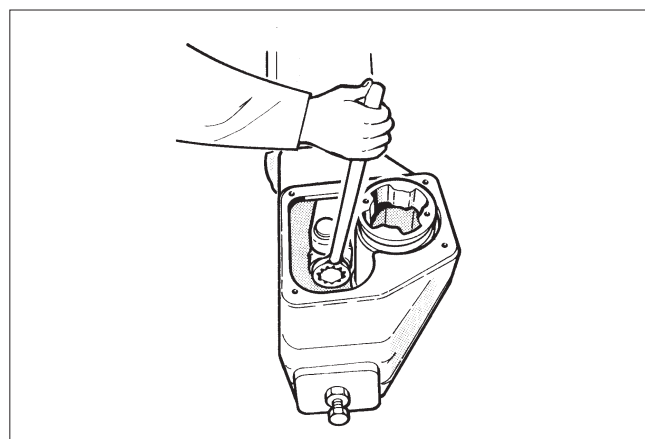

Fig. 10 Opening the fastening screw of the actuator bearing unit
- Remove the cylinder end side stop screw (26).
- Remove cylinder end (44).
- Remove housing cover (2).
- Unscrew the bearing screw (29) and the cylinder fastening screws (31) from the cylinder base (6) side, see Fig. 10. If the piston turns, do not prevent the turning with the piston fastening nut; send the entire actuator to the manufacturer to be repaired. **It is very dangerous if the lock welding of the piston fastening nut is broken!**
- Remove piston rod seal (16) and bearing (22). Clean the seal space.
- Remove cylinder end side stop screw (26).
- Open bearing unit (5) fastening screw (29). See Fig. 10.